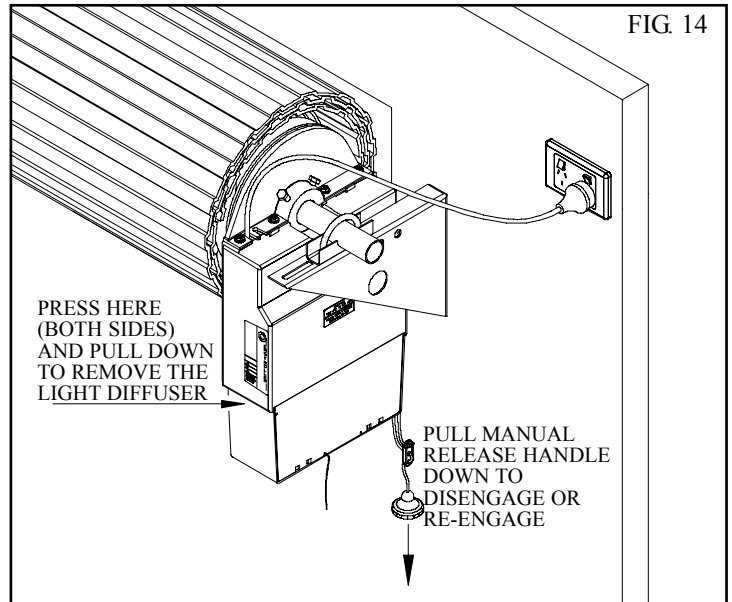
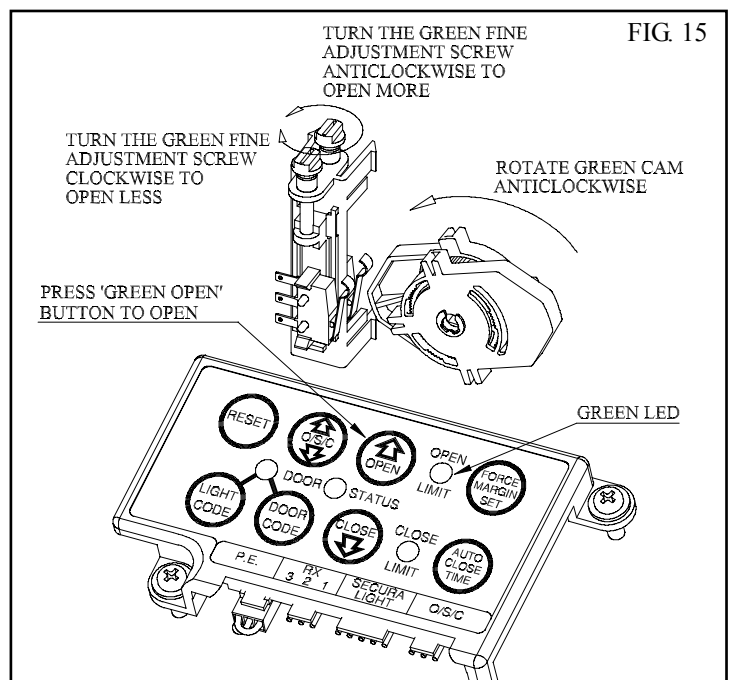

FIG. 14
FIG. 15
1. With the drive unit in manual mode (Fig. 14) move the door up by hand to the desired open position.
2. Remove the light diffuser (Fig. 14). Rotate the green limit cam by hand in an anticlockwise direction (Fig. 15) until the cam clicks the open limit switch.
6. Re-engage the drive gear by pulling down on the string and then releasing slowly (Fig. 14).
Press and hold the green Open button (Fig. 15) The door should start opening. Release the green Open button when the door reaches the desired open position. If the green LED (Fig. 15) is illuminated and the desired limit position has been reached then the limit adjustment is complete. If the green LED is illuminated but you are not happy with the door's open position, the green Fine Adjustment Screw (Fig. 15) can be adjusted to fine tune the open position. Turn the screw anti-clockwise to open the door more. To open the door less turn the screw clockwise. Each complete revolution of the adjustment screw is equal to approximately 10mm of door travel.